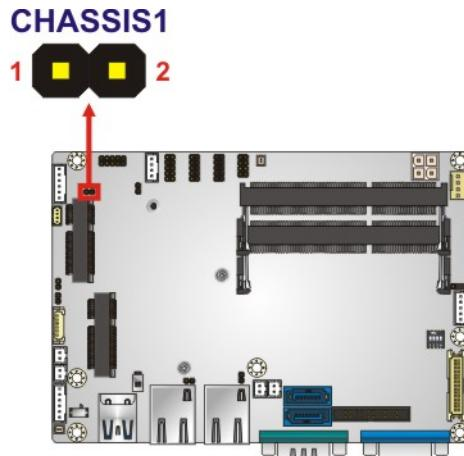

Figure 3-7: Chassis Intrusion Connector Location
**CN Location:** See Figure 3-7